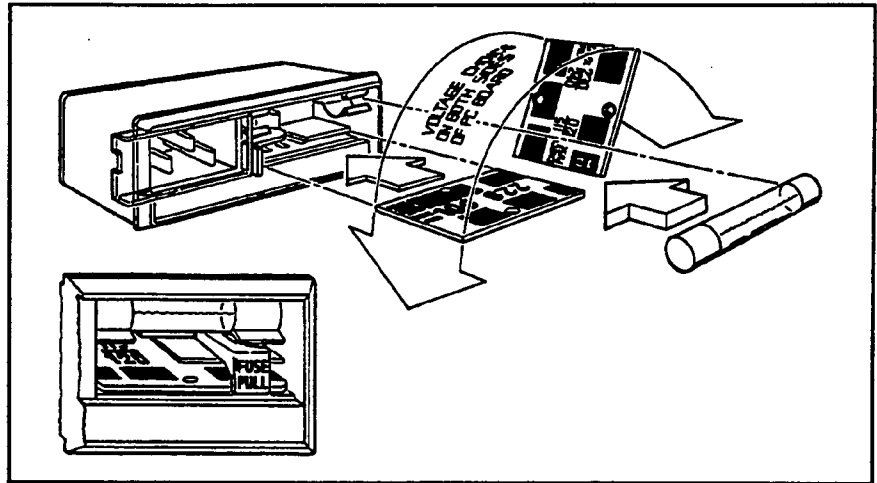

Figure 2-1. Line Voltage and Fuse Selection
Verify that the line voltage selection switches and the fuse are matched to the power source. See figure 2-1, Line Voltage and Fuse Selection. All fuses are non-time delay fuses.
Operator's maintenance consists of replacing defective fuses. The primary power fuse is located within the Line Power Module Assembly. Refer to figure 2-1 for instructions on how to change the fuse.
2. Check that the fuse rating is appropriate for the line voltage used. See Table 2-1 and Figure 2-1. Required fuse ratings are printed on the rear panel.